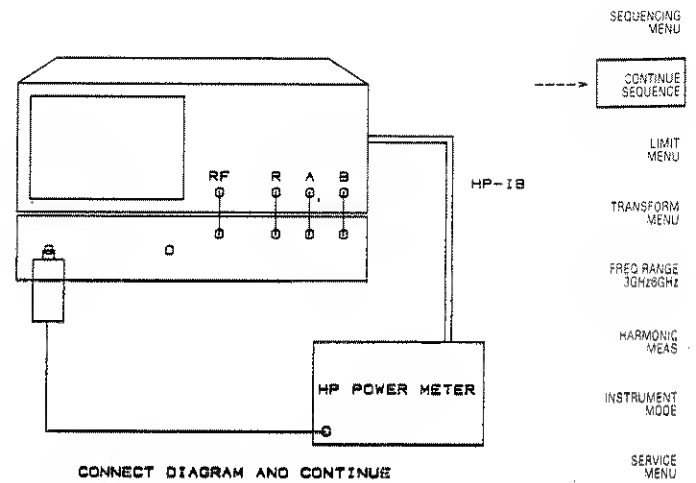

Figure 7. HP-GL diagram for a power meter calibration connection.
**UG1.** This sequence uses HP-GL commands to draw and display the connection diagram for a power meter calibration. The resulting CRT display is shown in figure 7. Once this sequence has been completed, sequence position 2 (UG2) is called.